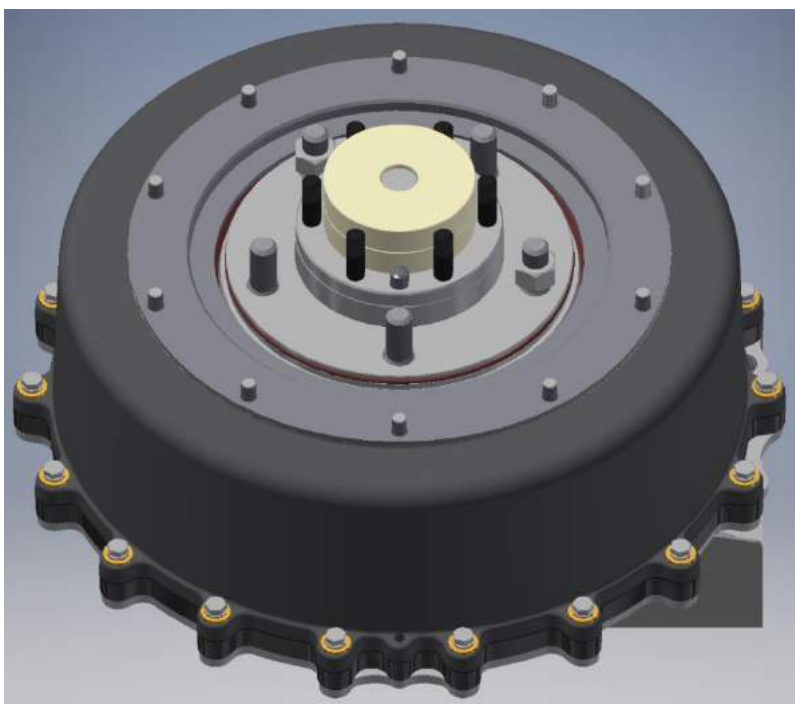

Figure 60
2. Remove and keep the 10x domed nuts holding the shaft seal carrier in place (Figure 60).